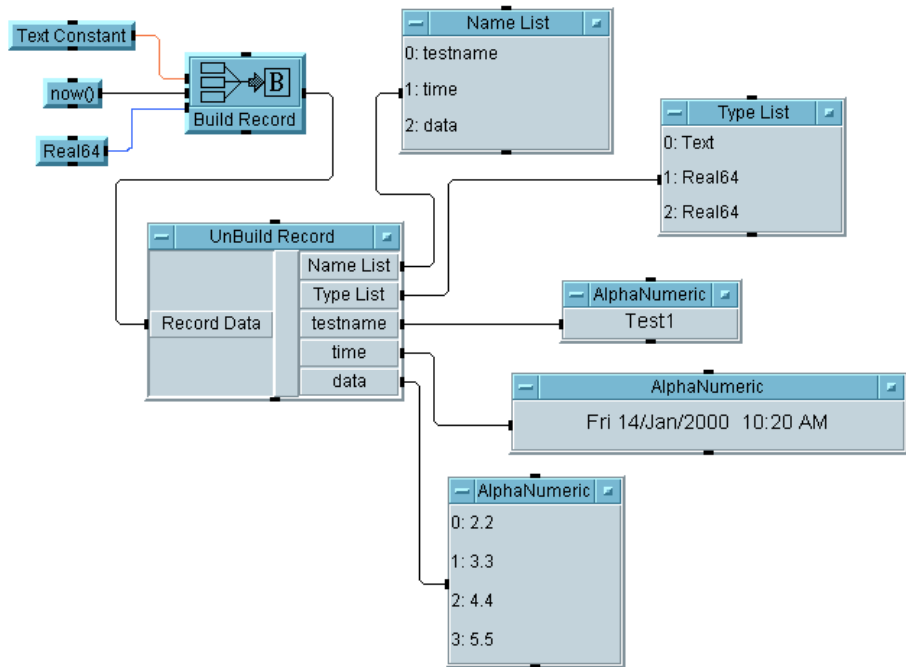

Figure 138 Using the UnBuild Record Object
- 4 Run the program and save it as **unbuild.vee**. It should look like Figure 138.